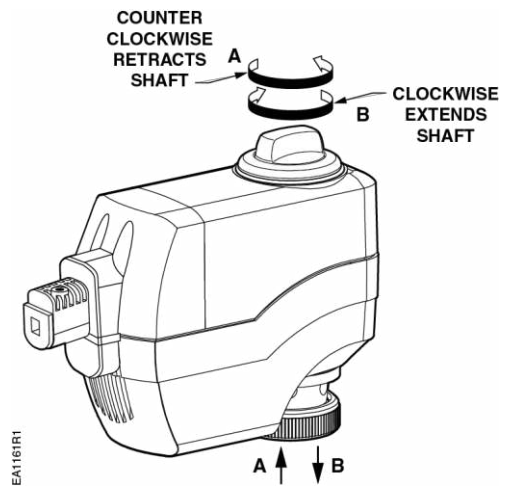
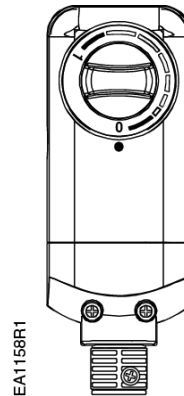

Figure 9. Manual Override.
Figure 10. Position Indicator (Shown in the 0 Position).
2. Turn the manual position indicator (See Figure 9 and Figure 10) on the top of the actuator to the **0** position and verify the actuator shaft completely retracts.
For manual positioning, the override knob is in the center of the position indicator. See Figure 9.
Check the wiring and the position indicator. See Figure 10.